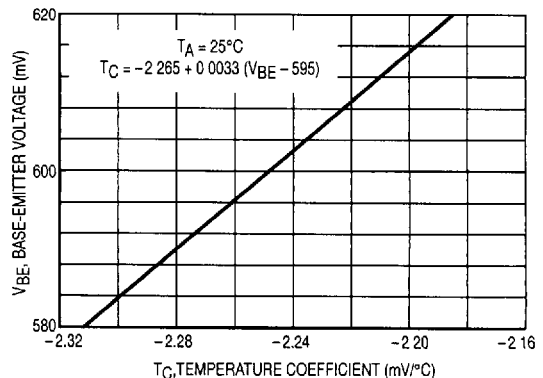

Figure 3. Temperature Coefficient versus Base-Emitter Voltage
- b. If $V_{BE}(\text{nom})$ is less than or greater than 595 mV determine T_C from the relationship described in Note 4. $T_C = -2.265 + 0.0033 (V_{BE} - 595)$ or see Figure 3.